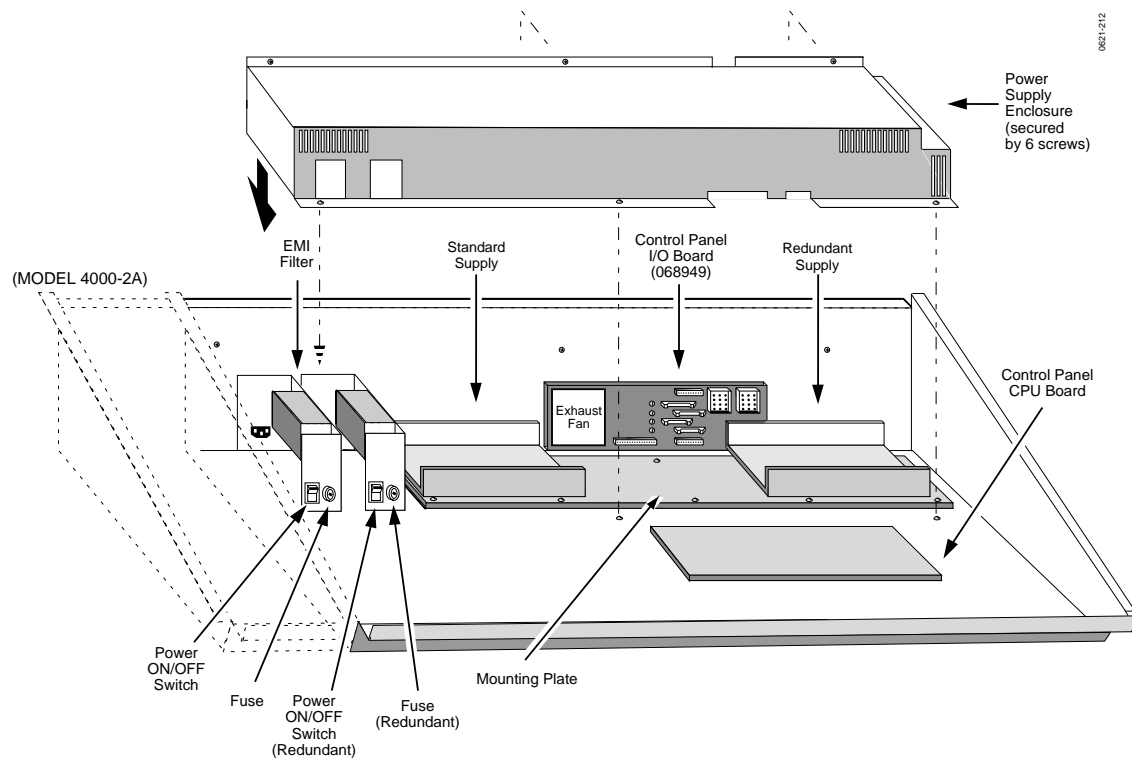

Figure 2-10. Model 4000-2A/B Panel Redundant Power Supply Installation
1. Open the Model 4000-2 Control Panel and turn the AC power switch on the left front of the enclosure to the OFF position. See Figure 2-10.